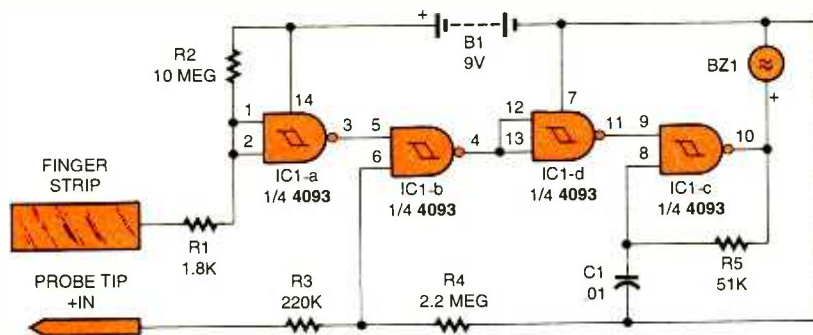

Fig. 1. The Cordless Voltage Probe is comprised of little more than a 4093 quad NAND Schmitt trigger, a buzzer, and a few resistors and capacitors.
The package consists of the Model 1000 Central Control Unit, Model ACP-6 AC Power Switching and Control Unit, and several other accessories (see Fig. 1). It interfaces with all household or office equipment, and provides the protection each unit requires. The system automatically restores power and other connections after the storm has moved away or the lightning has subsided. The unit can handle a variety of circuits, including wells, irrigation systems, air conditioners, freezers, and swimming pool and spa pumps, in addition to more common home and office electrical circuits.
**Circuit Operation.** A schematic diagram of the Cordless Voltage Probe is shown in Fig. 1. The circuit is comprised of little more than a 4093 quad NAND Schmitt trigger, a buzzer, and a few resistors and capacitors. In order to understand how the probe works, recall that all inputs to any NAND gate must be high to produce a low output. If one or more inputs go low, the output is forced high. Note that
in Fig. 1, the probe tip is tied directly to one end of R3, while the other end of R3 is tied to one input of IC1-b at pin 6. Resistor R4 is also tied to pin 6 from ground to act as a *pull-down* resistor. With no voltage detected at the probe tip, pin 6 is pulled to ground through R4. Note that R4 and R3 form a voltage divider network (with a 10:1 resistance ratio). If a positive voltage is applied to the probe tip, almost all of it appears across resistor R4, causing the voltage at pin 6 of IC1-b to rise to the level applied to the probe tip.